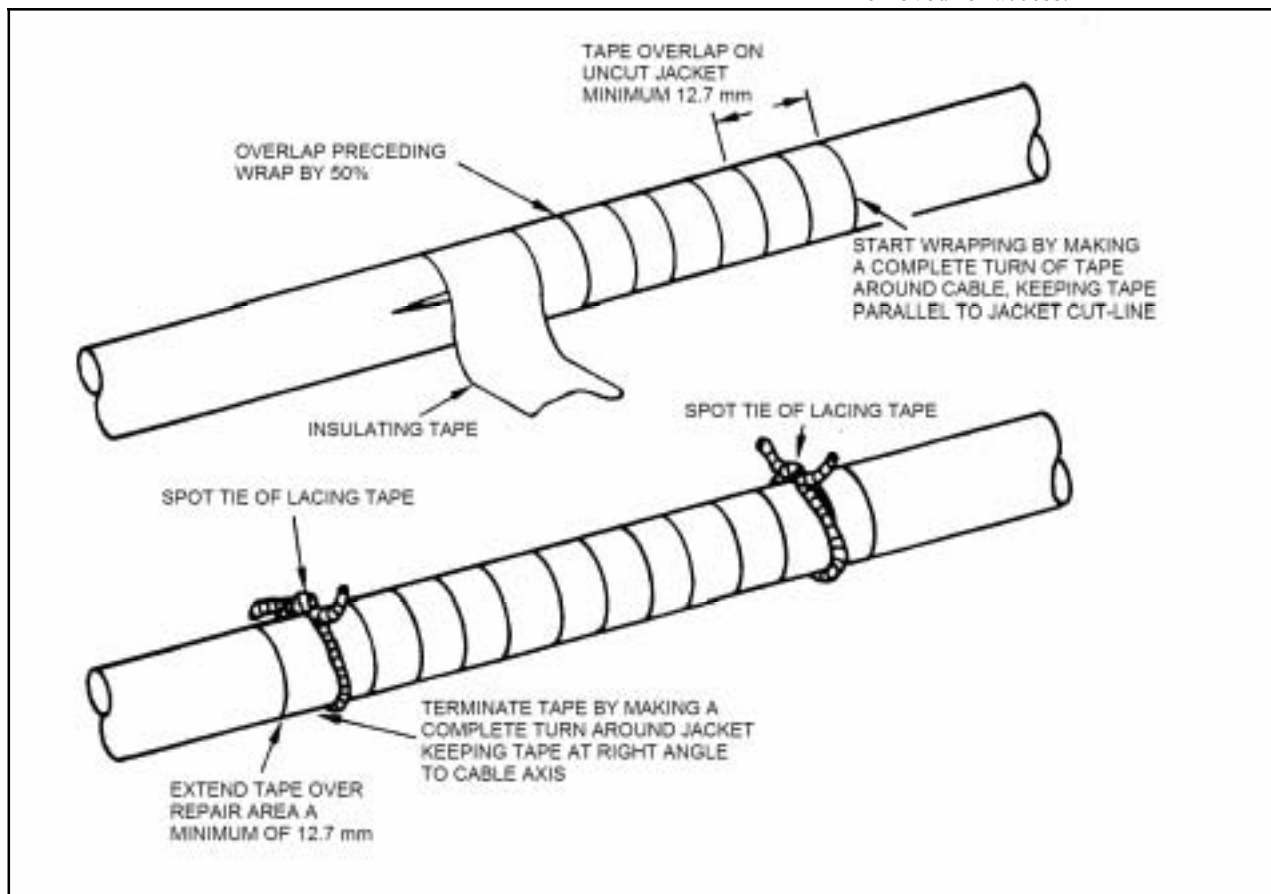

Figure 5-16 Taping Cable Jacket
- s. Apply insulating tape starting 12.7 mm before repaired area. Wrap tape one complete turn around cable parallel to jacket cut line (Figure 5-16).
- w. Spot tie both ends of insulating tape (Figure 5-16).